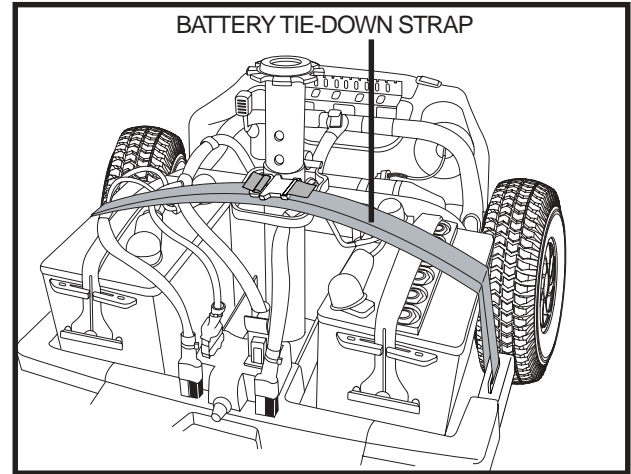

Figure 13C. Battery Tie-Down Strap
11. Reconnect the battery tie-down strap. Make sure the strap is positioned over the frame release lever to ensure proper securement. See figure 13C.